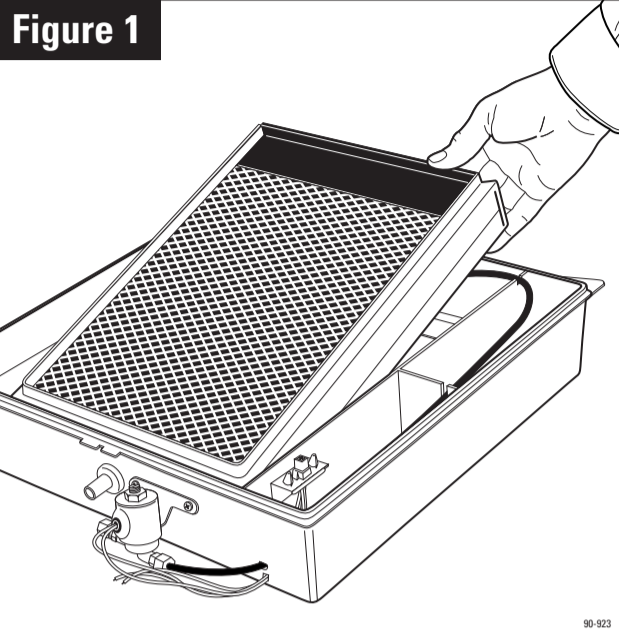

Figure 1
1. Place the humidifier on a flat surface. Unlatch humidifier cover assembly from base assembly at the bottom of the cover, lift and set aside. Pull out the evaporative assembly by grasping at the top and tipping out. (See Figure 1)